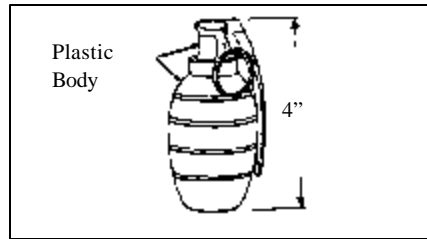

Figure 63. Offensive grenade.
- (2) Offensive grenades have a plastic or cardboard body. See figure 63. They are not designed to have a lot of fragmentation. Their damage is caused from over pressure of the explosive blast. These grenades use a burning-delay fuze that functions 3 to 5 seconds after the safety lever is released.